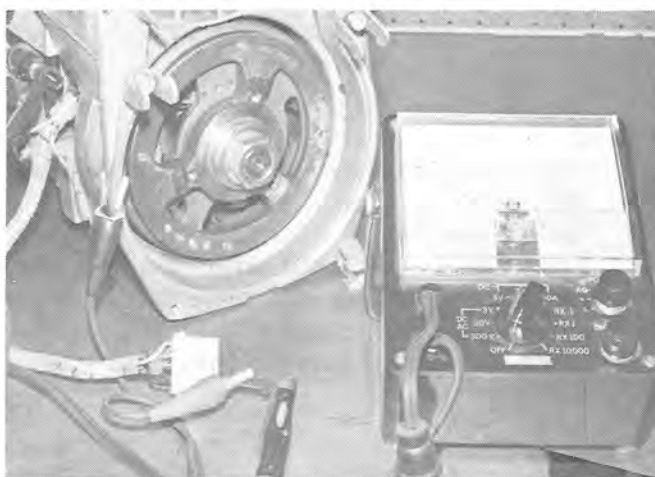

FIG. 1-65
- B. Attach negative lead of ohmmeter to engine ground. Attach positive lead of ohmmeter to No. 1 cylinder terminal in connector housing. See Fig. 1-65.